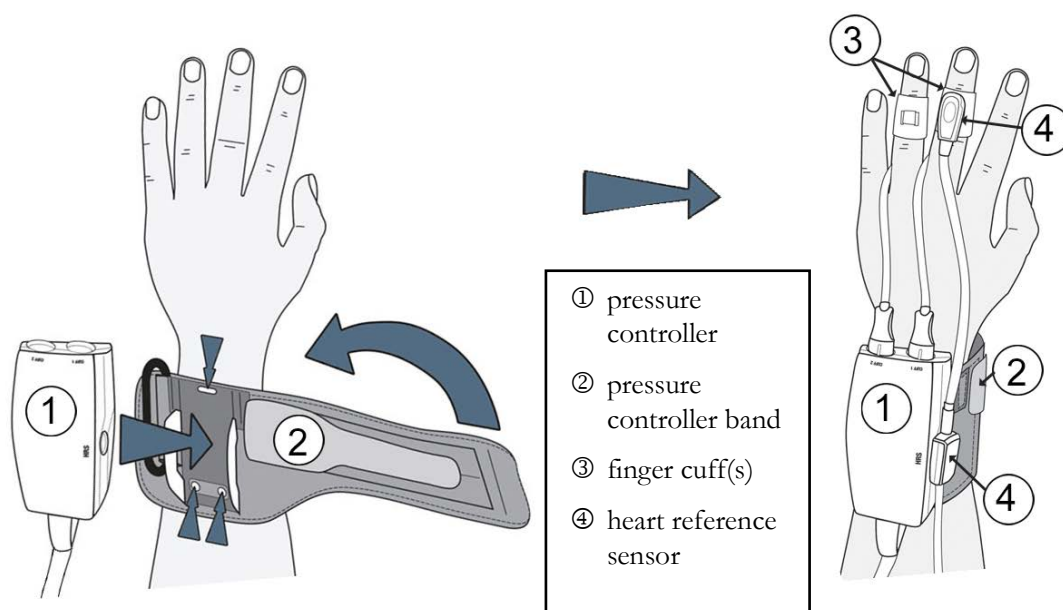

Figure 9-2 Pressure controller application
The pressure controller is worn on the patient's wrist and connects to the HemoSphere VitaWave module, HRS and finger cuff(s). See figure 9-2.
- 1 Wrap the pressure controller band around the patient's wrist. The non dominant hand is preferred for monitoring in awake patients. (figure 9-2, left)